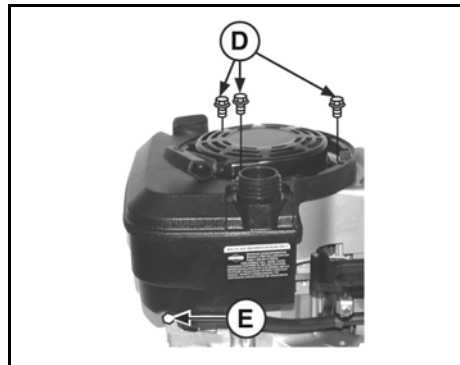

Figure 7
- Remove screws (D, Figure 7) and screw and spacer (E), then remove tank from engine.